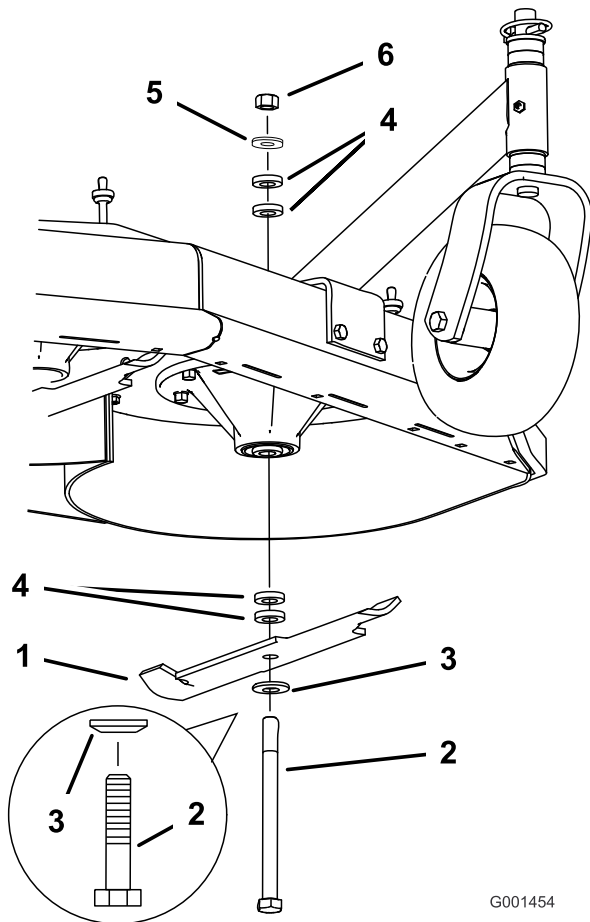

Figure 47
2. Remove the nut, blade bolt, curved washer, blade, spacers, and thin washer from the spindle (Figure 47).
1. Install the curved washer and then the blade onto the bolt. Select the proper number of spacer(s) for the height of cut, and slide the bolt into the spindle (Figure 47).
2. Install the remaining spacer(s) and secure them with a thin washer and a nut (Figure 47).